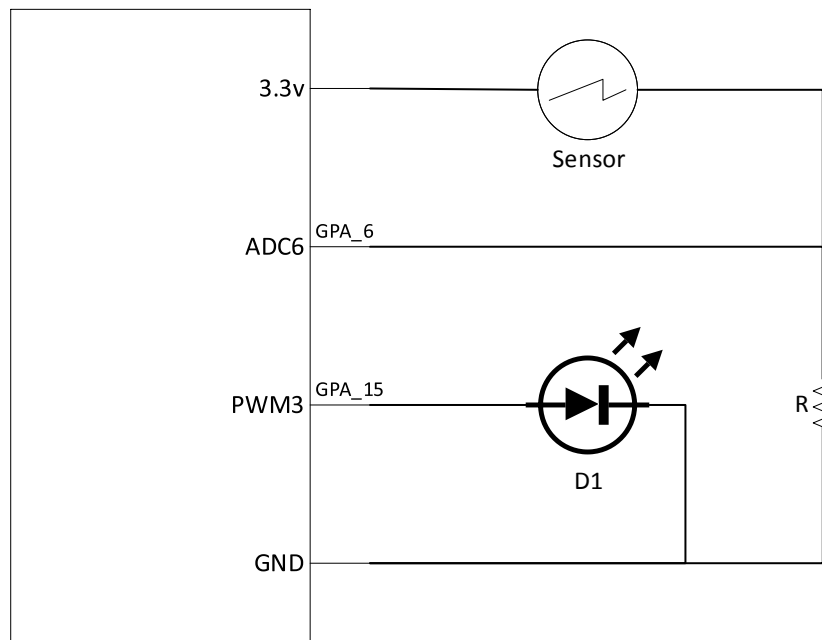

Figure 4: A Closed-Loop Control System
The circuit, in Figure 4, depicts how we will implement a closed-loop system with the MCU. Port A, bit 15 controls the PWM (channel 3) to the LED and the feedback is controlled by the built in ADC (channel 6) on Port A, bit 6. Remember that you need the keypad so do not use an ADC channel that is also used by the Keypad. Choose the R that provides the best range vs. sensitivity (1K, 2.7K, 22K) for your light sensor. For the best results, the LED should be very close to the light sensor.
1. Construct the Circuit in Figure 4 and test its functionality before connecting it to the MCU.